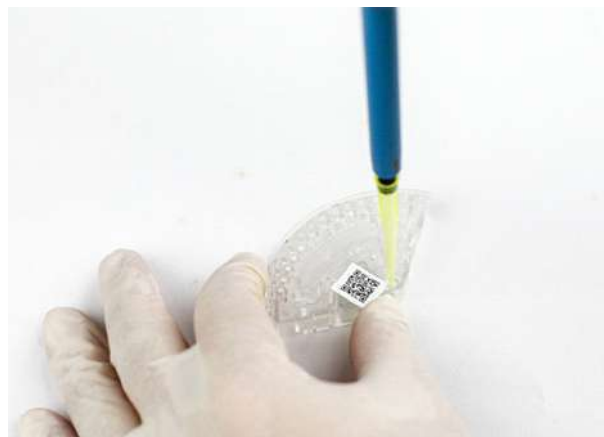

Figure 5-2-1
1. Use a 60-120 μ l standard pipette and a disposable pipette tip to inject the sample into the only tapered sample hole on the reagent rotor, as shown in Figure 5-2-1.